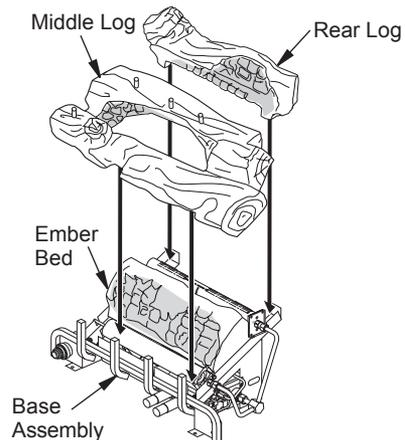
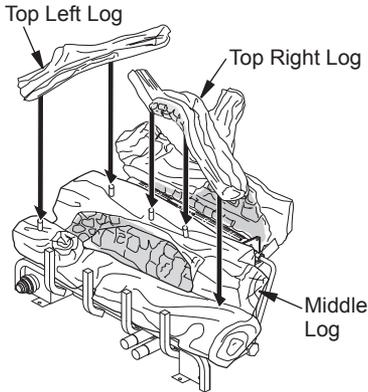

Figure 32- Installing Ember Bed, Rear and Middle Logs
Figure 33 - Installing Top Logs
- Place ember bed in center of the base assembly as shown in Figure 32.
- Rest rear log in back corner sections of base assembly as shown in Figure 32. Make sure log is completely vertical and not leaning in toward burner where the flame will touch the log.
- Position middle log as shown in Figure 32 making sure the grooves in the bottom of the log fit over the grate prongs. This log will rest on top of the bottom log.
- Place top right log onto pins of middle log (see Figure 32, page 20). The bottom of the top log will rest on the middle log as shown in Figures 33 and 34.
- Place top left log on middle log as shown in Figure 33.